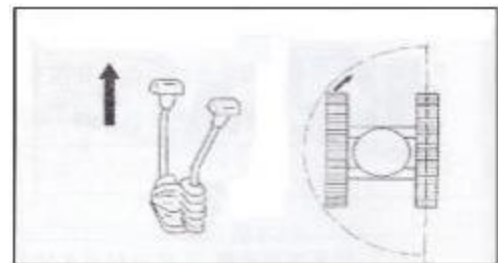

Fig 3-20
11. When only one crawler track is operated to rotate forward or backward, the machine will rotate with the stationary crawler track as the rotation axis. As shown in (Figure 3-20)